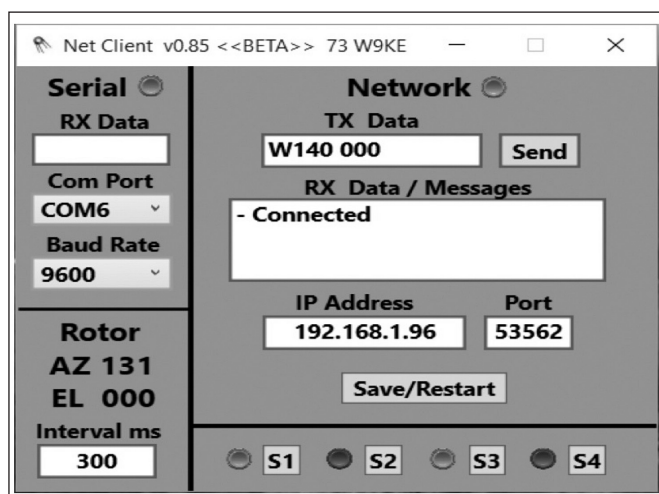

Figure 30 — The *Net Client* software connected to an LVP Tracker, showing the control interface for the LVP Tracker and serial communications configuration.
If an LVB Tracker is connected to the Raspi2, the current azimuth (AZ) and elevation (EL) for the rotator are shown in the lower left part of the window in the section labeled “Rotor.” (See Figure 30.) This value is updated at an interval shown in the “Interval ms” box.
When the serial port connection is made, the indicator button to the right of the word Serial will turn green. In Figure 30, *Net Client* is connected to virtual port COM6 at 9600 baud and COM7 is connected to the tracking program. This allows the software to send messages to the rotator.